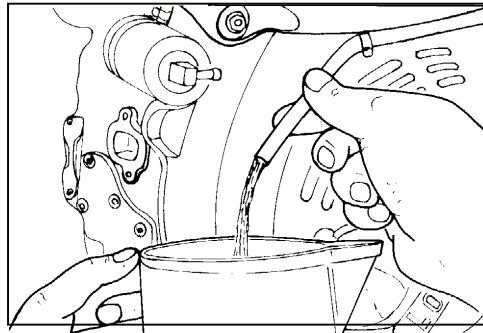

Figure 5
4. Remove fuel tube and empty the fuel tank. See figure 5.